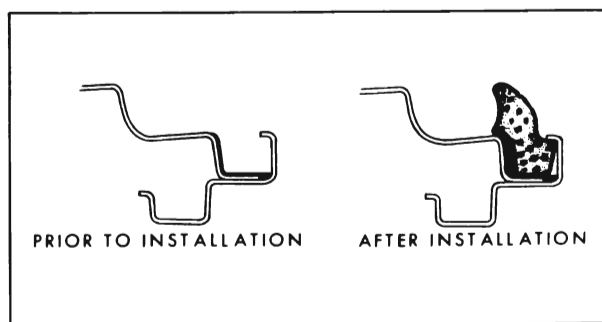

Figure 4-15—Rear Compartment Weatherstrip Installation
2. Apply (brush) a continuous coat of weatherstrip cement (neoprene type) along the lower and outer surfaces of the rear compartment gutter as indicated at "1" in Figure 4-15 around full length of gutter.
5. Using a pressure type applicator, apply weatherstrip cement (neoprene type) between weatherstrip and outer surface of gutter as indicated at "2" in Figure 4-15 completely around gutter to assure a watertight seal.